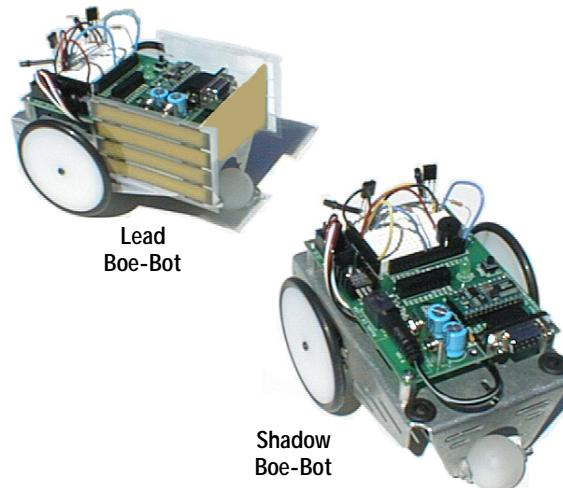

Figure 6.5: Lead and shadow Boe-Bots.
Figure 6.5 shows a lead Boe-Bot followed by a shadow Boe-Bot. The lead Boe-Bot is running a modified version of Program Listing 5.3: IR Roaming, and the shadow Boe-Bot is running Program Listing 6.3: Shadow Vehicle. Proportional control makes the shadow Boe-Bot a very faithful follower. One lead Boe-Bot can string along a chain of 6 or 7 Boe-Bots. Just add the lead Boe-Bot's side panels and tailgate to the rest of the shadow Boe-Bots in the chain.
- If you are part of a class, mount paper panels on the tail and both sides of the lead Boe-Bot as shown in Figure 6.5.